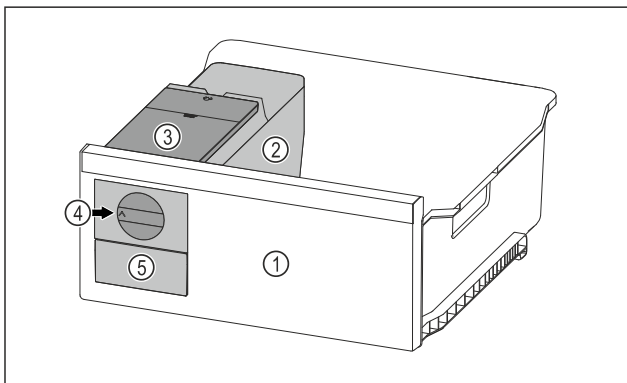

Fig. 120 Example illustration
- ▶ Turn the rotary knob Fig. 120 (4) clockwise as far as it will go.
- ▶ Ice cubes fall from the ice cube tray into the ice cube drawer Fig. 120 (5).